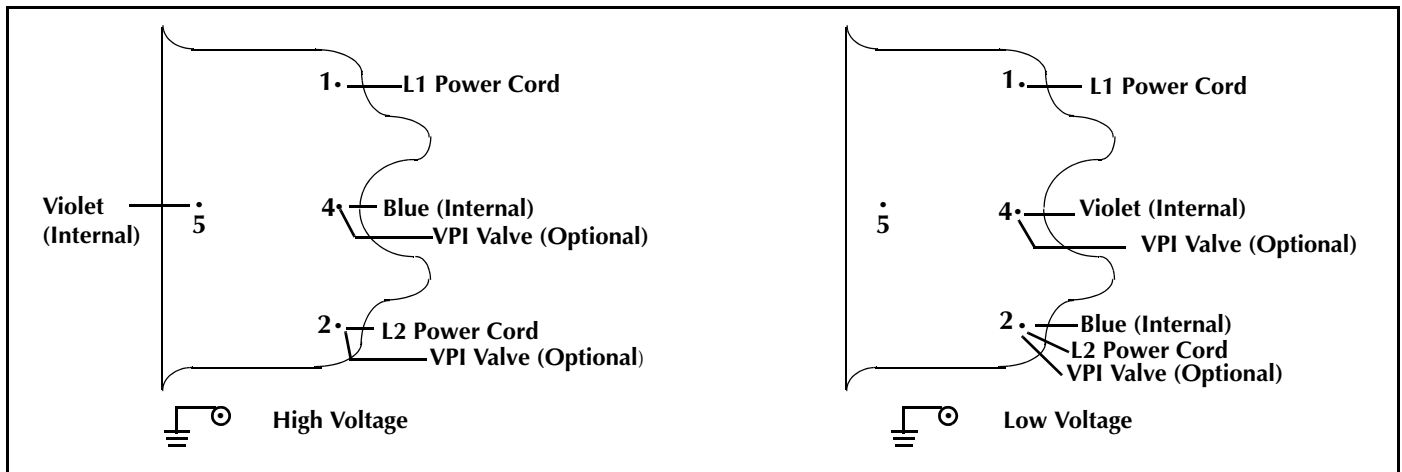

Figure 4 Single Phase Motor Electrical Connections
The pump can be configured for low voltage, 100 VAC to 115 VAC, or for high voltage, 200 VAC to 230 VAC. As supplied from the factory, the pump is configured for low voltage. Figure 4 shows the electrical connections for a single phase motor.
3. Refer to Figure 4 to connect the motor to match your supply voltage.
6. Replace the motor electrical cover and secure it with the three (3) screws removed in step 2.
4. Wire L1 and L2 per Figure 4 using right angle flag connectors or ring connectors.
Using the data in Table 3, verify that the VPI Valve chosen is compatible with the TriScroll supply voltage and frequency. Then, locate the proper wiring diagram to use (Figure 4 on page 7).
2. Connect the VPI Valve solenoid wire leads to the pump motor as shown in Figure 4.